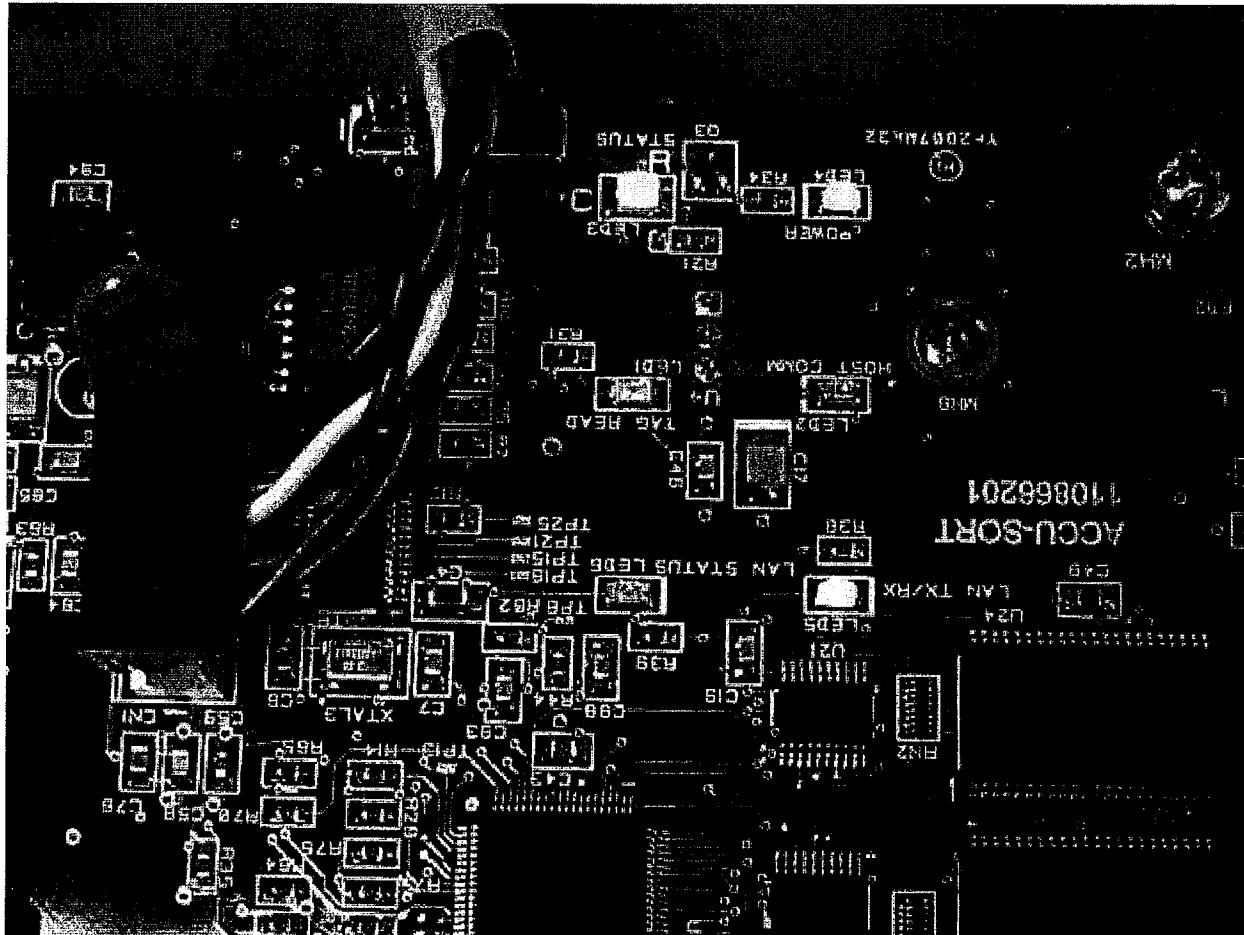

Figure 8
9.4.7 Check that the following LEDS are on or flashing as described below. Note LED 5 and 6 Silkscreen labeling is wrong with respect to their function, but is ignored for clarity. See figure 8 for LED locations.